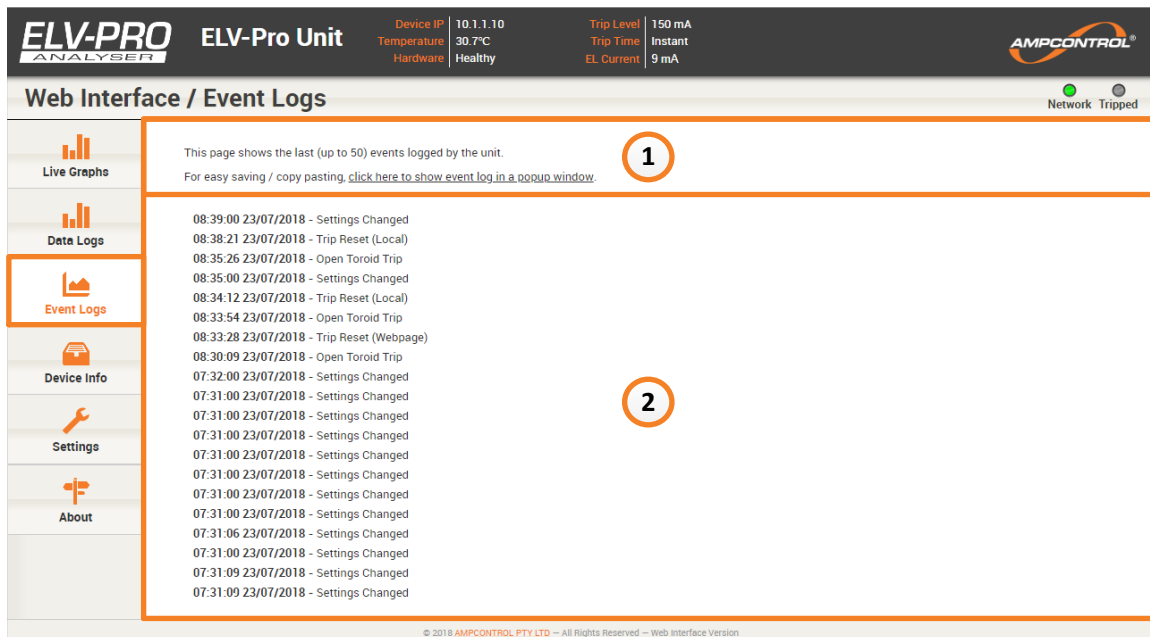

Figure 6-10: ELV-PRO Web Interface - Event Logs
This tab shows the 50 most recent user changes made at the unit, see Figure 6-10. To export this list, use the link above the log (item 1) to show the log entries in a separate popup window for printing or copy-pasting. The Event log descriptions can be found in Table 8 below.